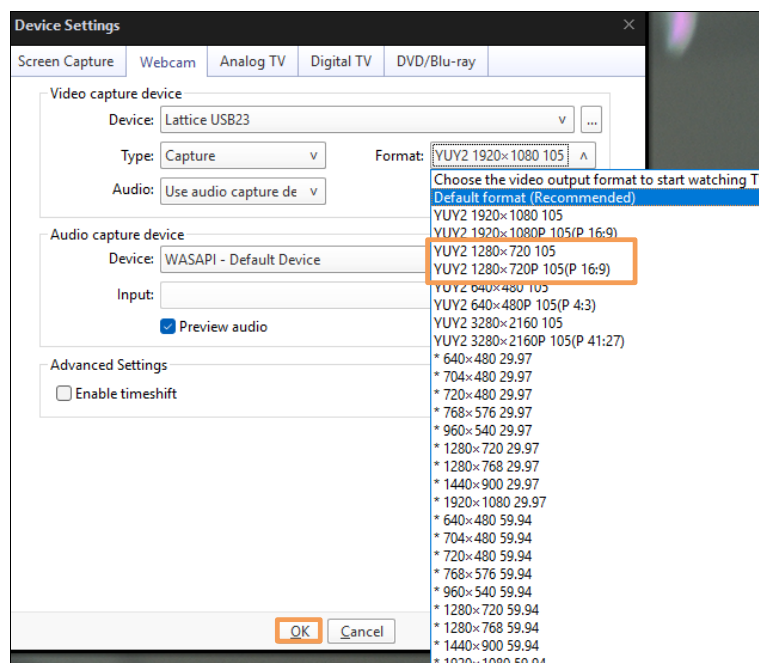

Figure 7.6. 720p Selection in PotPlayer
3. In the Format drop-down menu shown in Figure 7.6, select the **YUY2 1280x720** option. Then click **OK**.